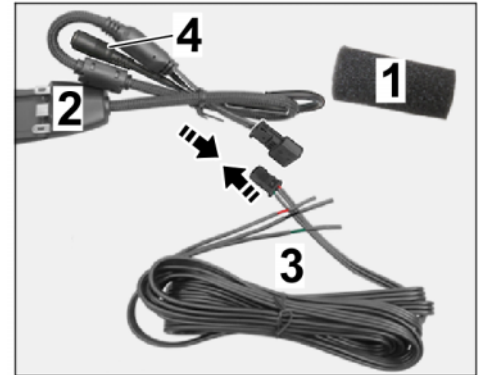

Figure 12
- 3.1.2 Connect plug connection (3-pin) (⇒ *Figure 12 -Arrows-*).